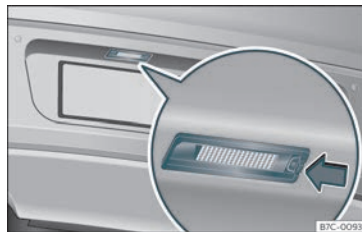

Fig. 51 In the rear bumper: Number plate light.
- Press the number plate light in the direction of the arrow >>> **Fig. 51**.